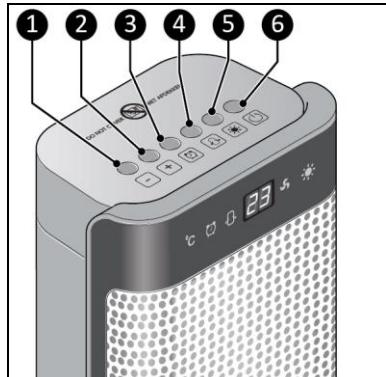

Figure 10
2. Press the ON/OFF button (Figure 10, pos. 6) or on the remote control. The device starts in ventilation mode. The display shows the ambient temperature. The ventilation lamp lights up.
1. Set the desired temperature with the Plus and Minus buttons on the unit (Figure 10, pos. 1, 2) or on the remote control (max. 35 °C). The display shows the set temperature for a few seconds. After this the display will show the ambient temperature.
1. Use the heating dial on the device (Figure 10, pos. 5) or the remote control, scroll through the:
2. Press the timer button on the device (Figure 10, pos. 3) or the remote control: